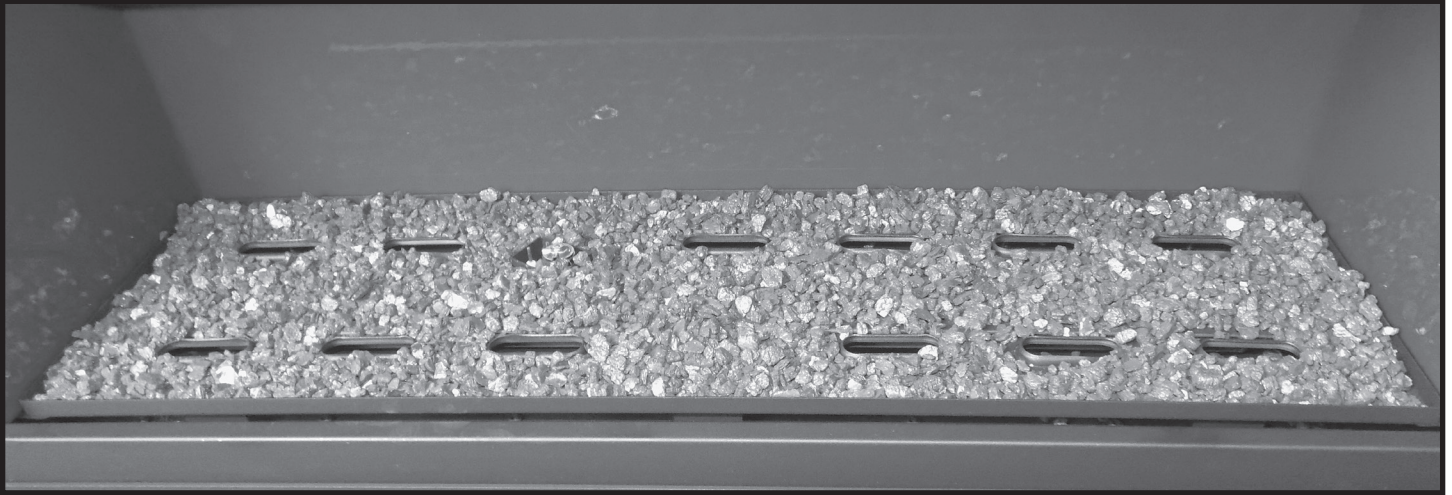

Figure 59: Ember material spread evenly over burner tray.
1. Spread ember material evenly over the surface of the burner tray. Use as much ember material as is needed to fully cover the burner tray but not so much that the ember material spills over into the air flow ports (Figure 59).